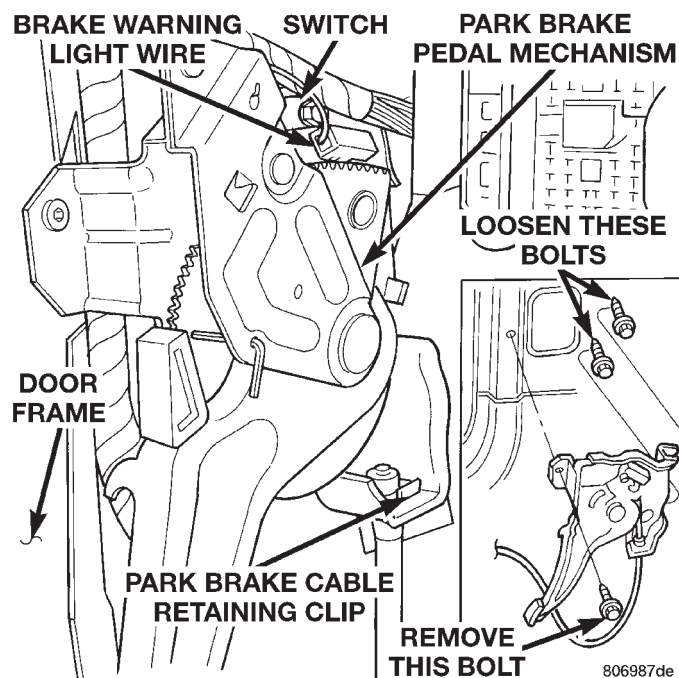

Fig. 101 Park Brake Pedal Assembly Mounting
(9) Remove the bolt (Fig. 101) attaching park brake pedal assembly to left front door frame. Loosen but do not remove the 2 bolts (Fig. 101) attaching park brake pedal assembly to cowl panel. Unplug the brake warning light connector from switch on park brake pedal assembly. Remove park brake pedal mechanism and front park brake cable as an assembly.
(4) Install park brake pedal mechanism onto the 2 loosened mounting bolt on cowl panel (Fig. 101). Install the park brake pedal assembly retaining bolt
into door frame (Fig. 101). Torque all 3 park brake assembly mounting bolts to 27 N·m (19 ft. lbs.).
(5) Connect the brake warning light wire from vehicles wiring harness, onto switch located on park brake pedal mechanism (Fig. 101).